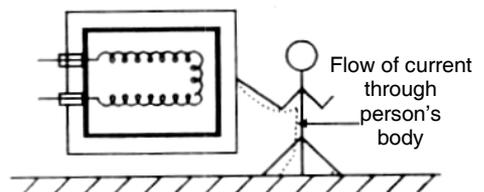

Fig. 2
- instrument then the circuit gets completed through his body i.e. current flows from metallic part, through his body to earth as shown in Figure 2, if the system is not earthed the person gets the shock.